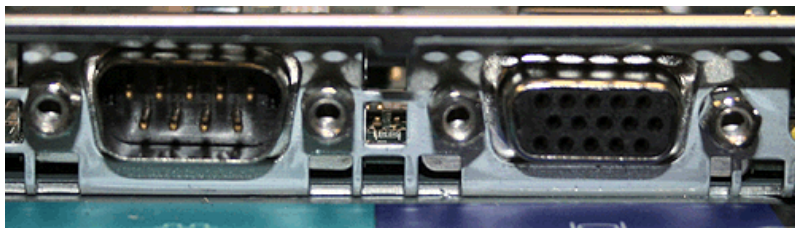

Figure 285. Serial and video ports on the SAN Volume Controller 2145-8G4
3. Replace the four stand-off screws from beside the I/O ports at the rear of the server. Figure 285 shows the location of the stand-off screws.